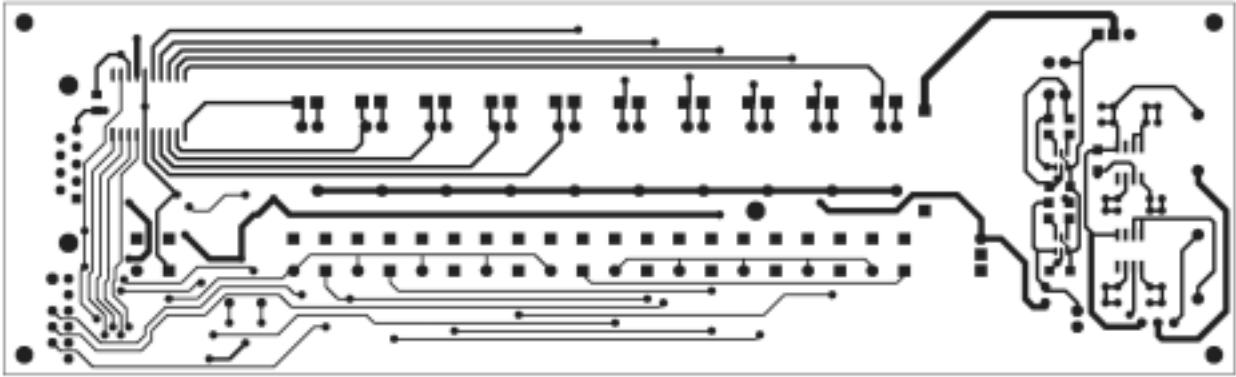

Figure 7. CAT310DB1 Board Layout – Top Side
- Figure 7. CAT310DB1 Board Layout – Top Side